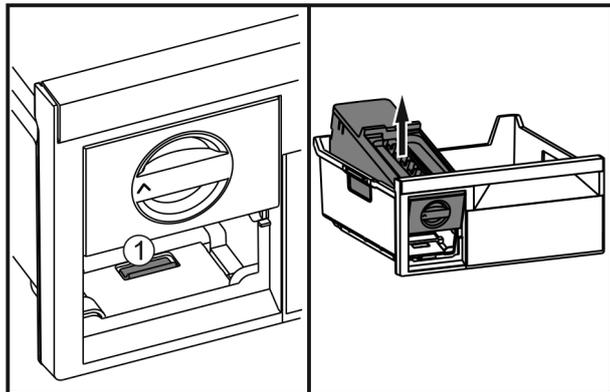

Fig. 37
- ▶ Press the lug Fig. 37 (1), lift up the EasyTwist-Ice at the rear and take it out of the freezer drawer.